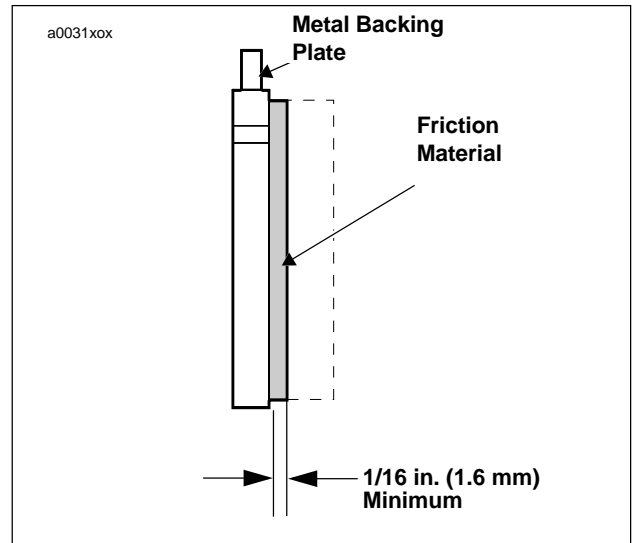
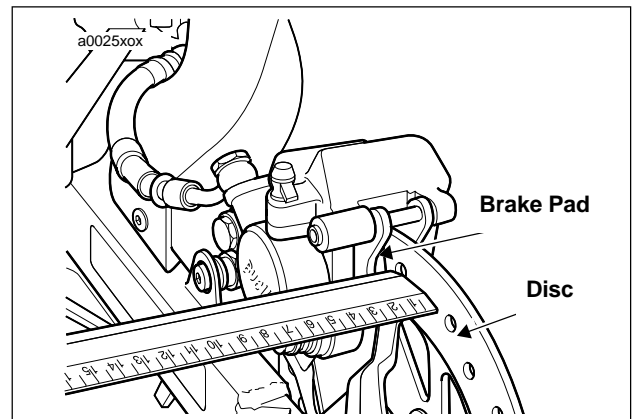

Figure 1-9. Brake Pad - Side View
Figure 1-10. Measuring Rear Brake Outer Pad
See Figure 1-9. See Figure 1-10. Inspect brake pads for damage or excessive wear. Replace both pads as a set if friction material of either pad is worn to 0.04 in. (1.0 mm) or less. If this amount of wear occurs, wear grooves (2) will disappear from friction material surface.